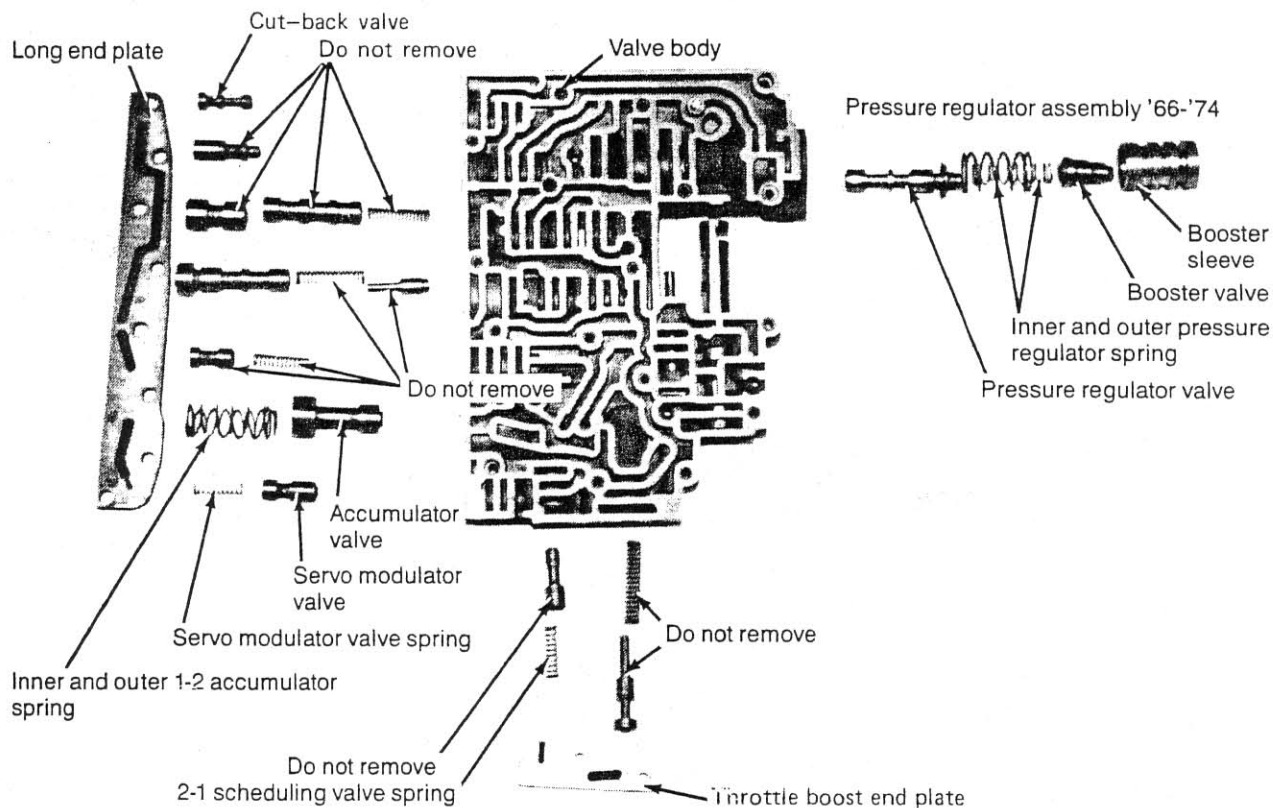

FIGURE 7
'66-'74' (See Fig. 7) Remove the two end plate bolts. Hold your thumb over the end plate as you remove the last bolt so the spring pressure does not allow parts to fly out. Slowly shift the end plate off and remove the booster valve assembly and the pressure regulator springs. Replace the outer spring with the blue spring supplied with the kit. Install the stock inner spring as removed. Replace the booster assembly with the sleeve and valve supplied with the kit. Make sure the valve is properly installed in the sleeve. Push
**STEP 10.** Turn the **casting** so the throttle boost end plate is up. (See Fig. 7) Remove the two bolts that hold the end plate in place. Again, hold your thumb in place to prevent parts from springing out. Lift end plate off slowly to expose the 2-1 scheduling valve spring. Remove this spring and replace it with the **violet** spring supplied with the kit. Put the end plate back into position and hold it in place with your thumb. Install two hold down bolts **finger tight**.
**STEP 11.** Turn the **casting** so the long end plate faces up. (See Fig. 7) This end plate holds seven sets of valves in place. Remove eight bolts holding the end plate in place. Hold the end plate in place with your thumb while removing the last